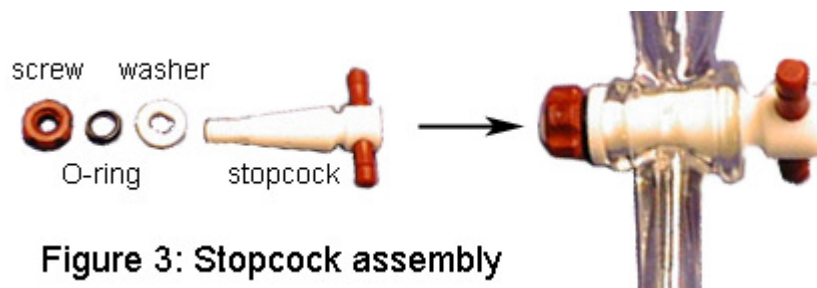

Figure 3: Stopcock assembly
2. Empty the burette of distilled water from the top and check that the stopcock is liquid-tight. If the stopcock feels loose when it is turned, hold onto the stopcock handle and rotate the screw clockwise to tighten. The stopcock should rotate smoothly. If it doesn't, you should disassemble the stopcock to clean the stopcock and where it touches the glass surface of the burette. Reassemble the stopcock with all its parts as laid out in Figure 3.